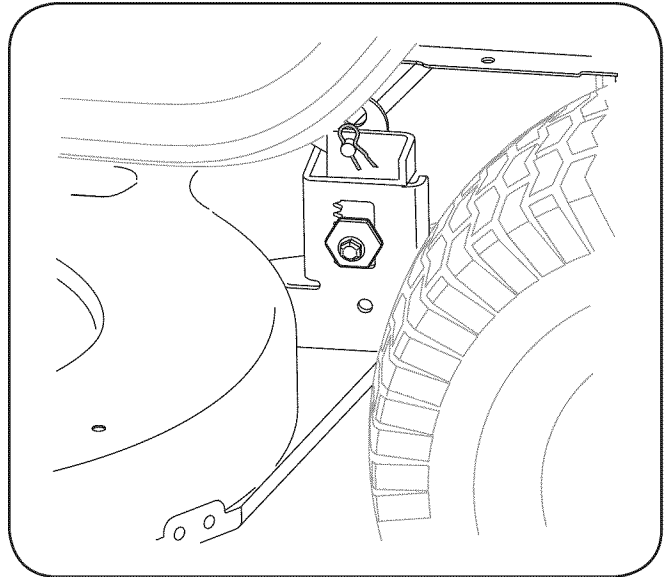

Figure 7-2
5. **On 38" Decks:** Looking at the cutting deck from the left side of the tractor, locate the bow-tie pin that secures the deck support rod on the rear left side of the deck. See Figure 7-2. Remove the bow-tie pin that secures the deck support rod, and carefully remove the deck support from the deck lift arm.